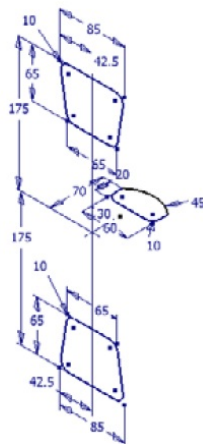

Figure 8-165 *Sketches of three sections*
3. Exit the sketching environment. The three sketches are shown in Figure 8-165.